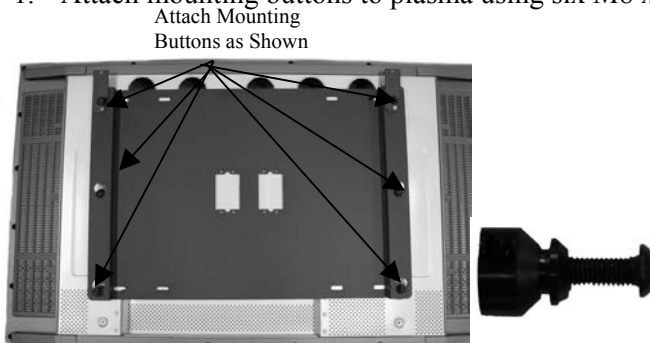

Figure 2
1. Attach mounting buttons to plasma using six M8 x 35mm cap screws provided (see Figure 2)